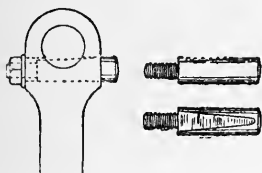
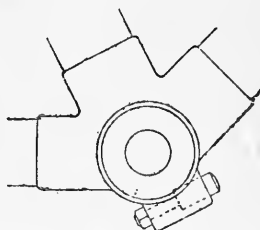

Fig. 3.—Crank End and Cotter Bolt
Fig. 4.—Bottom Bracket with Cotter Bolt
**Adjusting the Bottom Bracket.**—To make any adjustment of the bottom-bracket bearing, it will first be necessary to take off the crank opposite to the chain side. Remove the nut (*see* Fig. 3) with a spanner, support the end of the crank on a block or anything solid, and drive out the wedged-in cotter bolt (shown separately) with a blow or two from a heavy hammer. (In replacing afterwards, note, of course, that the flat on the cotter will come against the flat on the axle or spindle, Fig. 5, which illustration shows the axle and the cups that keep the balls in place.) The crank having been removed, the cups are adjusted or removed by first loosening the nut of the bottom bracket cotter bolt (shown underneath in Fig. 4),